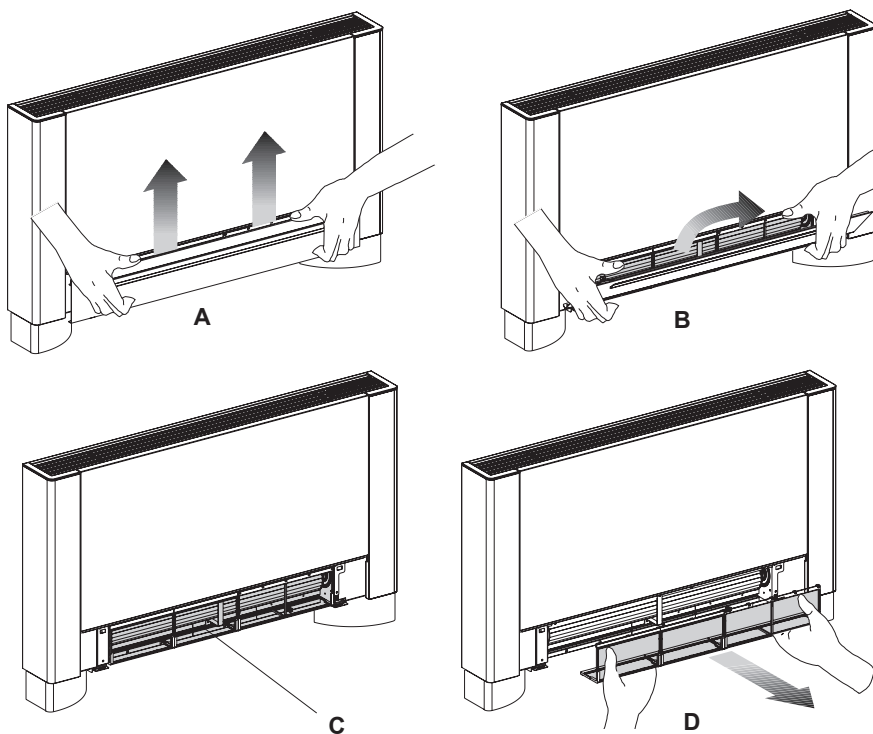

Fig. 19
- Extract the front grille by lifting it slightly (fig. 19 ref. A) and turn it until it comes right out of its seat (fig. 19 ref. B);
- Extract the filter (fig. 19 ref. C), pulling it horizontally outwards (fig. 19 ref. D).